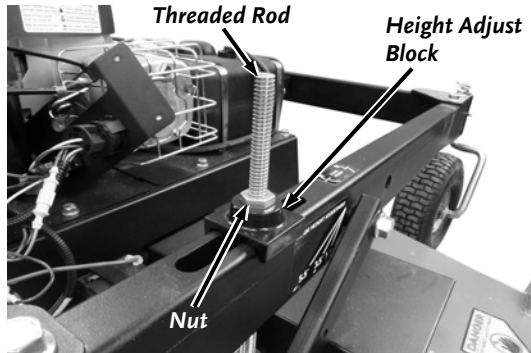

Figure 13
12. Pull up on the Threaded Rod and install the Height Adjust Block as far as it will go followed by a Nut (**Figure 13**). When the Nut touches the Block, turn the Rod so the Nut can set inside the Block.